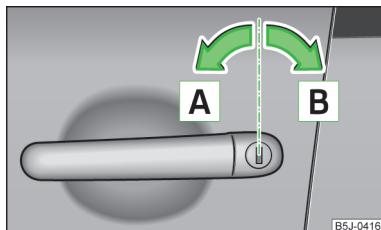

Fig. 32
- Turn the key in the locking cylinder of the driver's door in the direction of travel (unlocking position) **A** » Fig. 32.
- Turn the key in the locking cylinder of the driver's door opposite to the direction of travel (locking position) **B** » Fig. 32 on page 51.